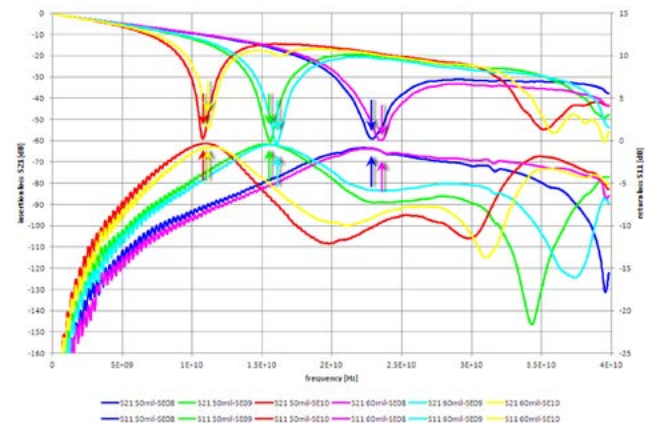

Figure 16: Alignment insertion loss and return loss.
Because of the wide maxima at the resonance frequency in the return loss chart, no numerical evaluation was performed here. However, plotting the insertion loss and the return loss in one chart confirmed the expected alignment of the dips in insertion loss (IL) and maxima in return loss (RL) regarding frequency, which is shown in Figure 16 for the longer stubs.